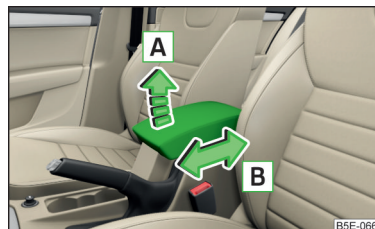

Fig. 88
- To **adjust the height**, lift the armrest in the direction of the arrow  into one of the locking positions » Fig. 88.